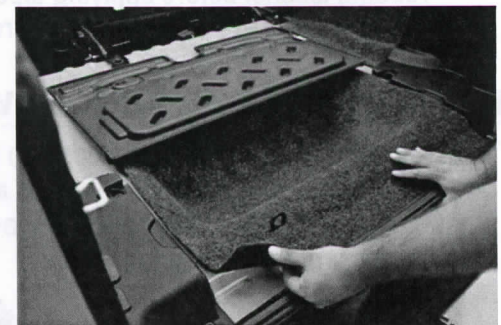

FIGURE 5:
11. Position provided liner in empty tub cavity, ensuring lid latch is pushed thru the material. Now fold the liner edges to access the hook fasteners. Clean the surface with alcohol then remove the film backing and roll the part back into place. (Fig. 5) Firmly press the top surface to ensure adhesive attachment.